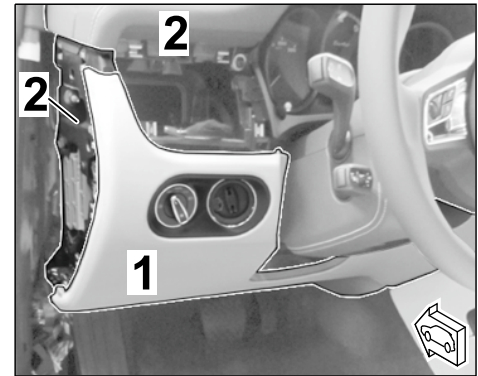

Figure 13
1.5.4 Remove trim panel under dashboard (⇒ Figure 13) (⇒ Workshop Manual '701919 Removing and installing trim panel under dashboard on driver's side').